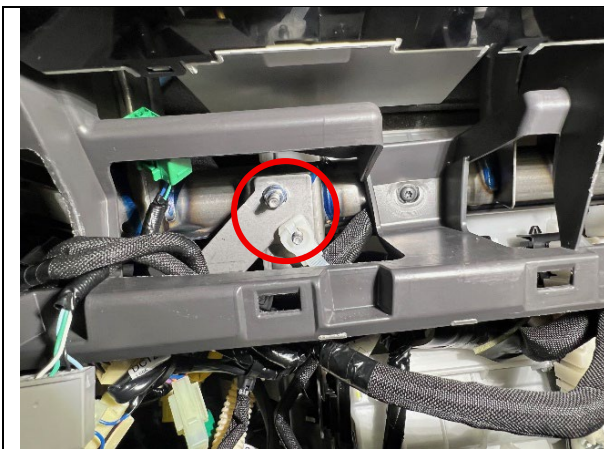
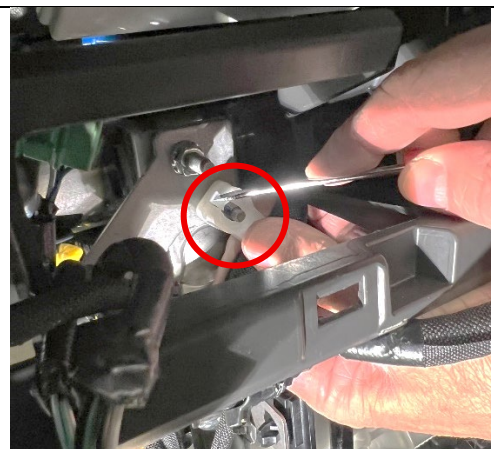

Figure 21
Figure 22
23. Locate the H98 and H99 connector bracket nuts. (See Figure 21.) Unclip the white harness clamp from the bottom nut/stud by pushing up on the tab with a small screwdriver and pulling the clamp outward. (See Figure 22.)